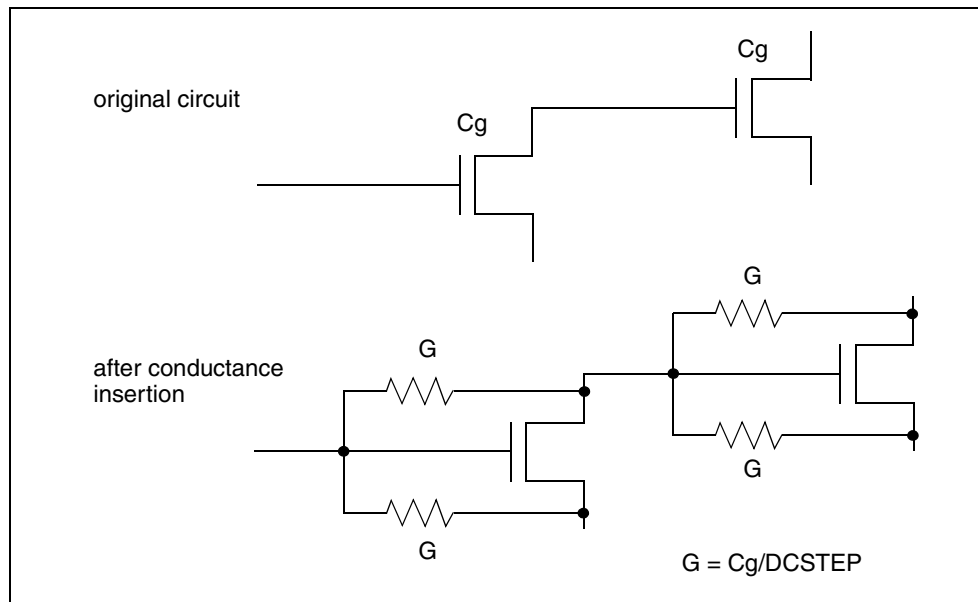

Figure 39 Conductance Insertion
In Figure 39 on page 366, HSPICE inserts conductance (G), in parallel with capacitance (C_g). This provides current paths around capacitances, in DC analysis.